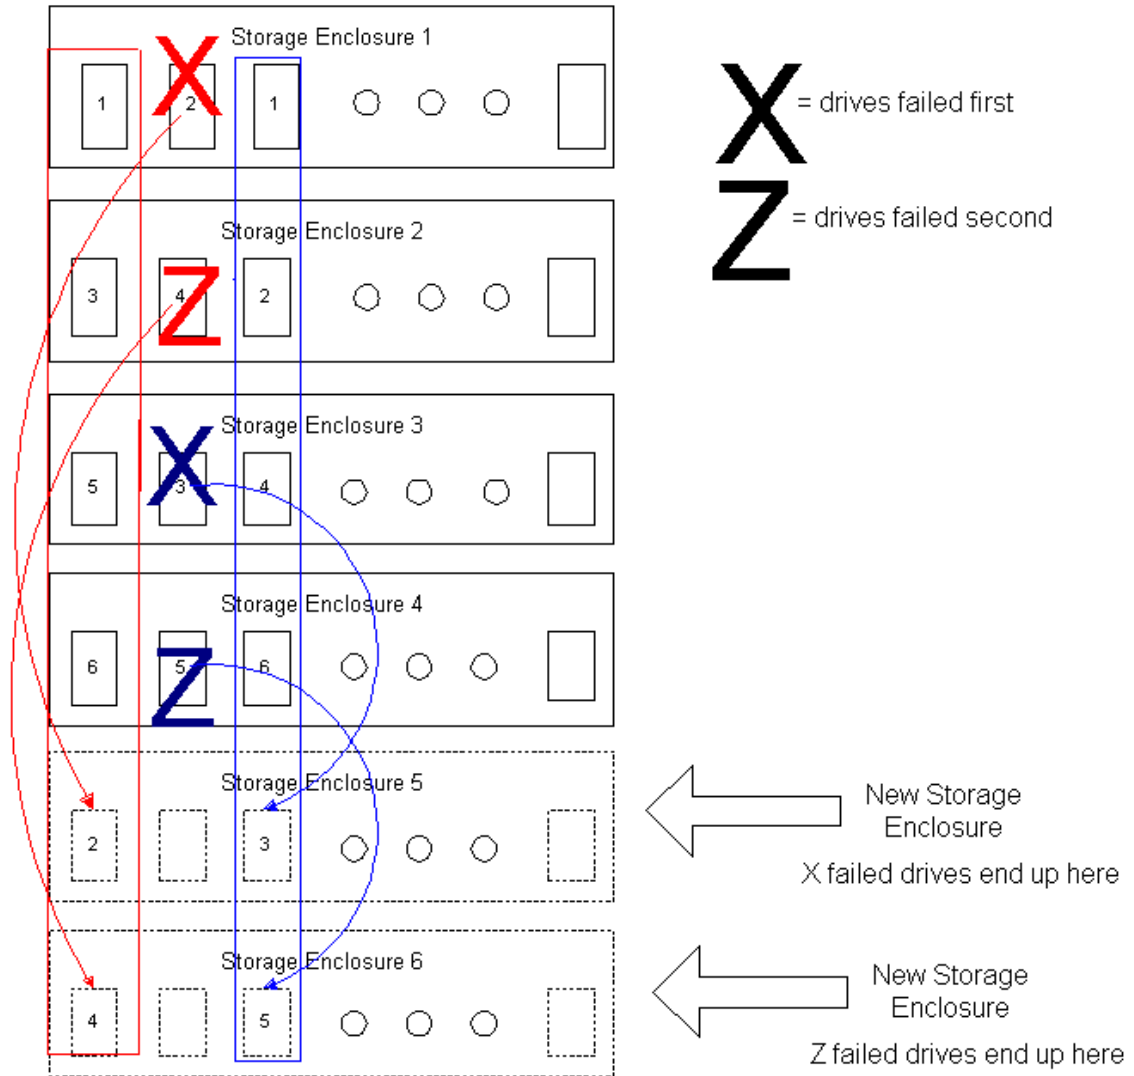

Figure 23: Expanding vertical RAIDsets
Earlier in this guide, the “Replacing Disk Drives” section detailed how to replace failed drives. The method for expanding the RAIDsets vertically is very similar. In essence, the administrator must manually fail one of the drives in a storage enclosure that contains more than one RAIDset member disk. The administrator then replaces the failed drive with a drive from the new storage enclosure. The administrator waits for the RAIDsets to rebuild, and then fails the next drive. Figure 23 is included in the *Compaq TaskSmart N-Series Cluster Planning Guide*, but is also included here to help illustrate this process.
In the example in Figure 23, the process would be:
6. Issue a `replace` command on a disk in storage enclosure 5 that is in line with each array. Figure 23 lists the drives as their original drive numbers, in this case 2 and 3. Enter the following command: